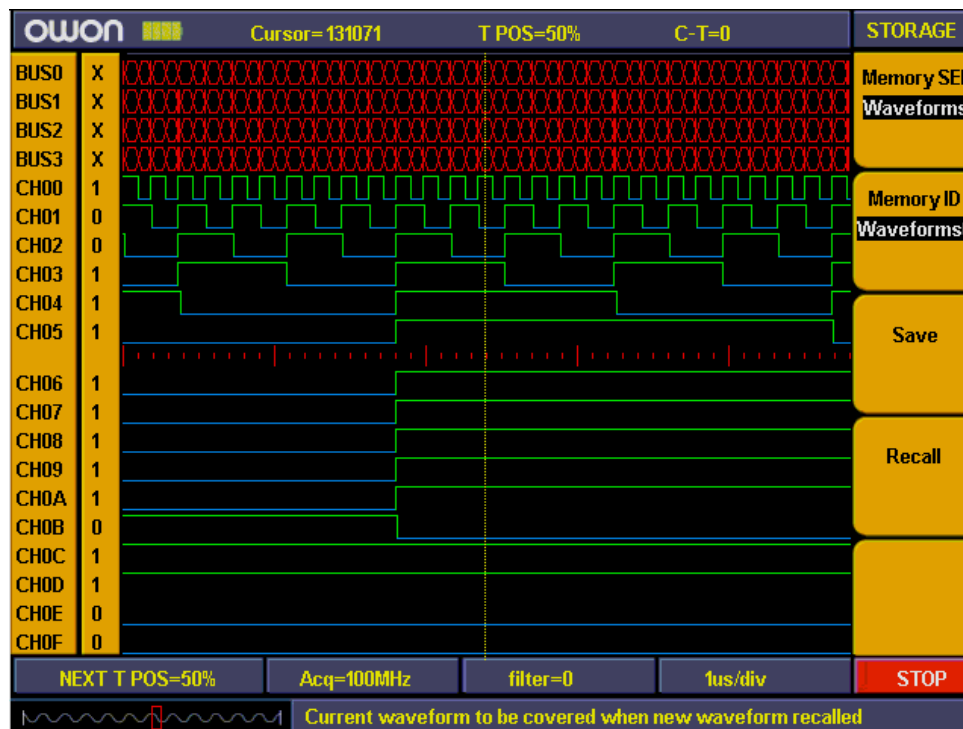

Fig 82: Waveform saving
8. Press “F4” to recall the memory waveform or settings (refer to Fig. 82)